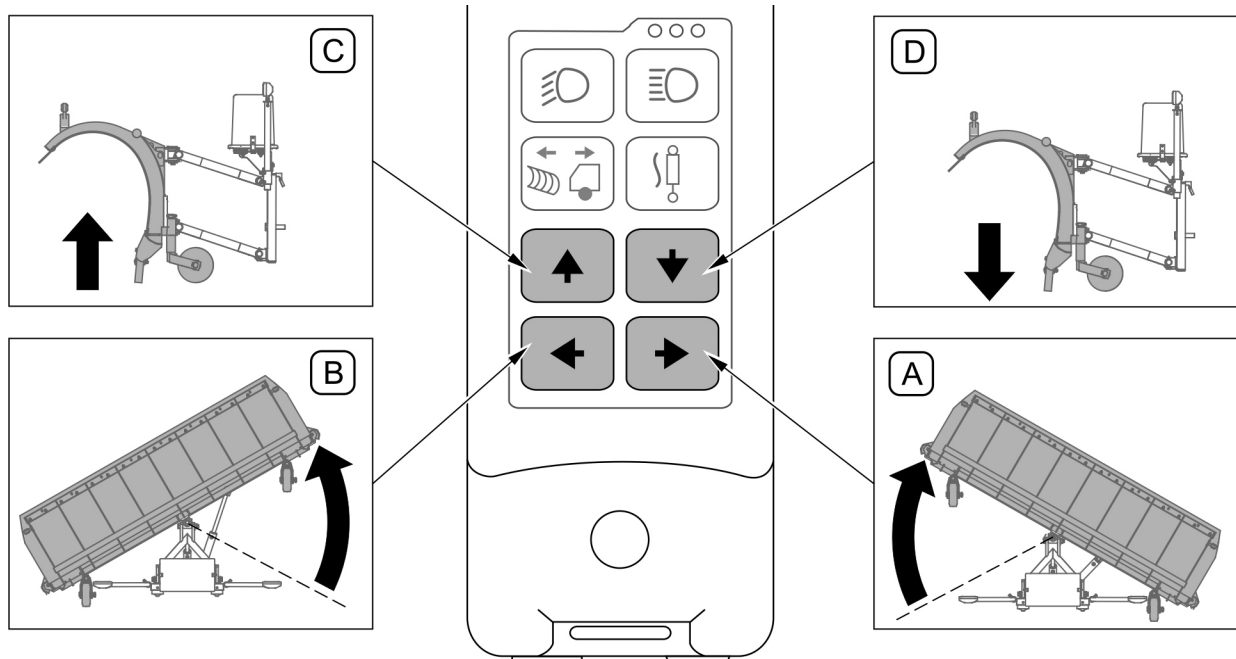

FIG. 4. Changing the snow plough's working position
Push-button (A) is used for turning the mouldboard to the right, while push-button (B) is used for turning the mouldboard to the left (FIG. 4). The mouldboard is lifted using push-button (C). The snow plough is lowered when push-button (D) is pressed.